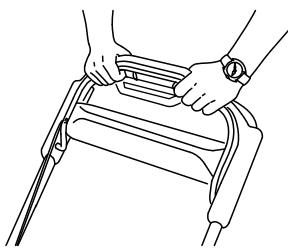

Figure 23
- Hold the blade-control bar against the handle (Figure 23).